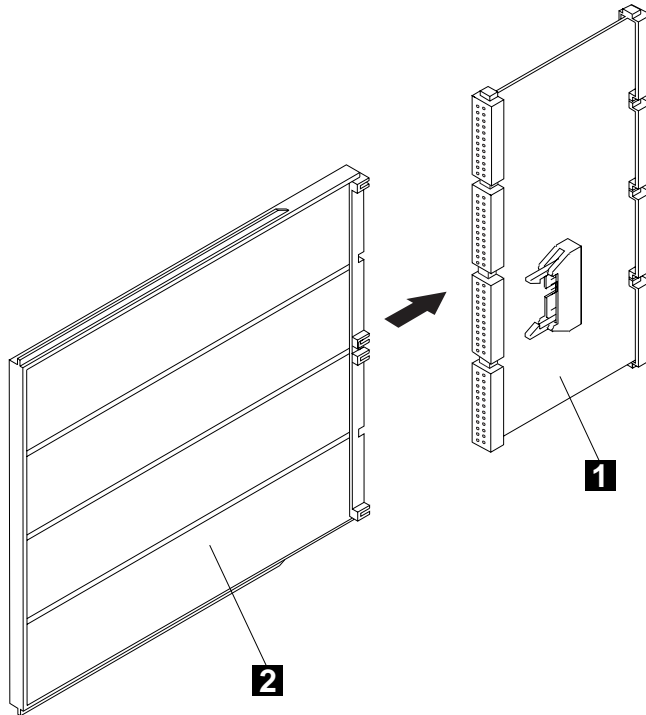

Figure 4-38. Installing a DICO Card Using a Dummy Card
- Step 7. \_\_\_\_ Then, using a dummy card **2** PN 2733278 push and put the DICO cards **1** in place (see Figure 4-38).